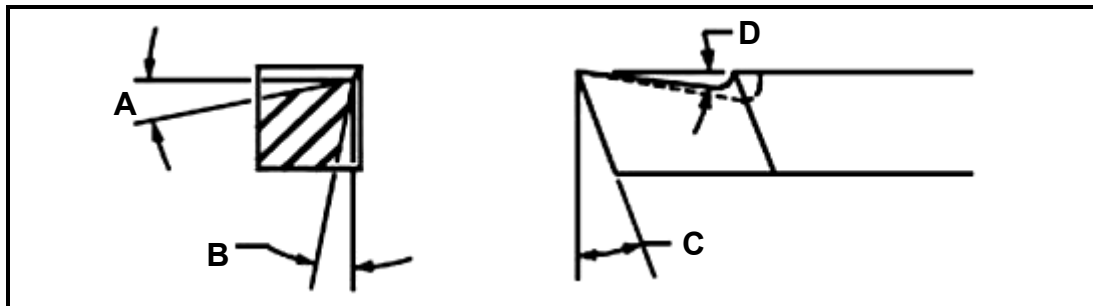

FIGURE 9.6
- 9.6 FIGURE 9.6 below shows the angles on a centre lathe cutting tool. Label parts A–D.